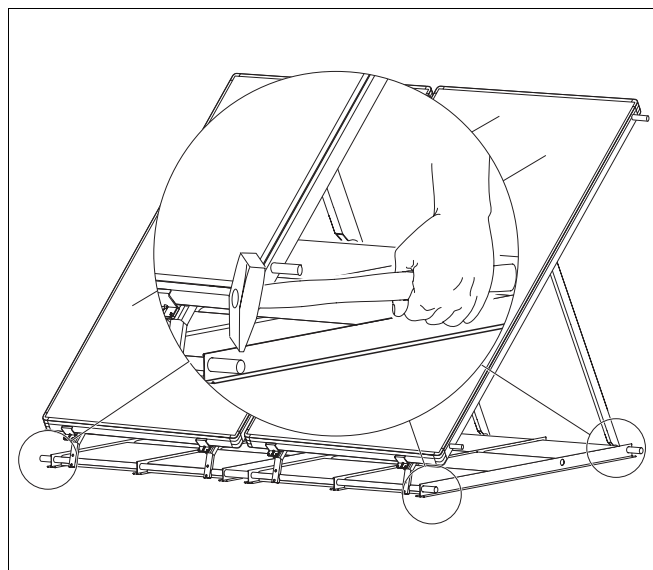

Fig. 40 Stabilising the flat roof supports
- Re-shape the outer tee-profiles of one collector array (Fig. 40) with a hammer blow to the upper edge, until the round tubes are secured inside the tee-profiles.